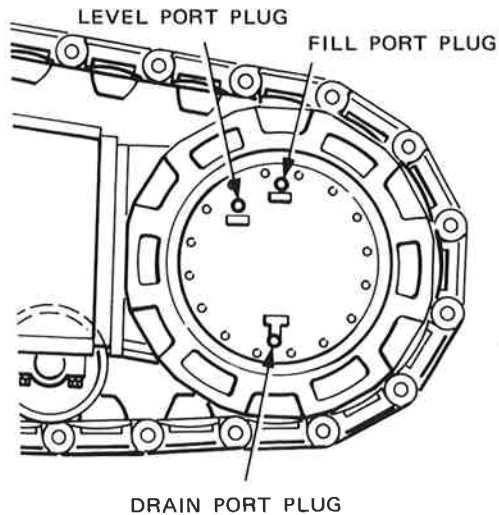

Fig. 4 Plugs of Reducer
After the above, the motor's output shaft can rotate freely. (Fig. 4)
- 1) Stop the machine with the propel reducer drain plug facing straight down. (Fig. 4)